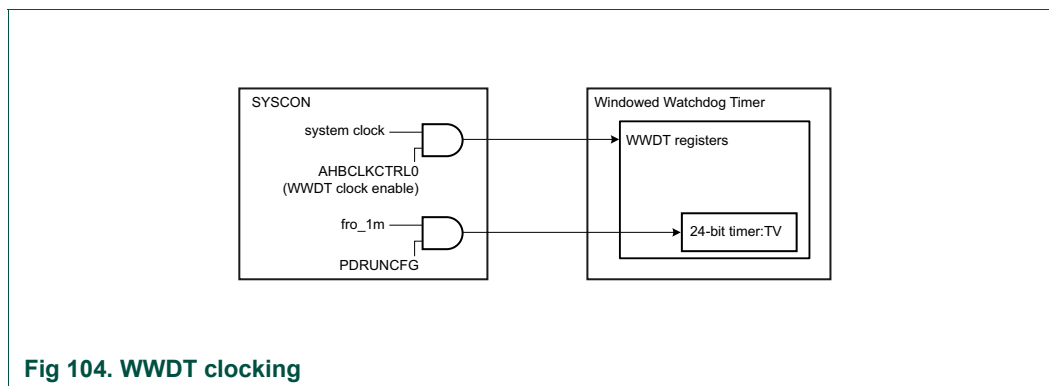

Fig 104. WWDT clocking
- The watchdog clock (WDCLK) is generated from always on FRO\_1MHz clock, see Figure 104 that can be divided by WDT clock divider register value in SYSCON module. See Table 104. The accuracy of this clock is limited to +/- 40% over temperature, voltage, and silicon processing variations. To determine the actual watchdog frequency, use the frequency measure block. See Chapter 11 “LPC55S6x Analog control”